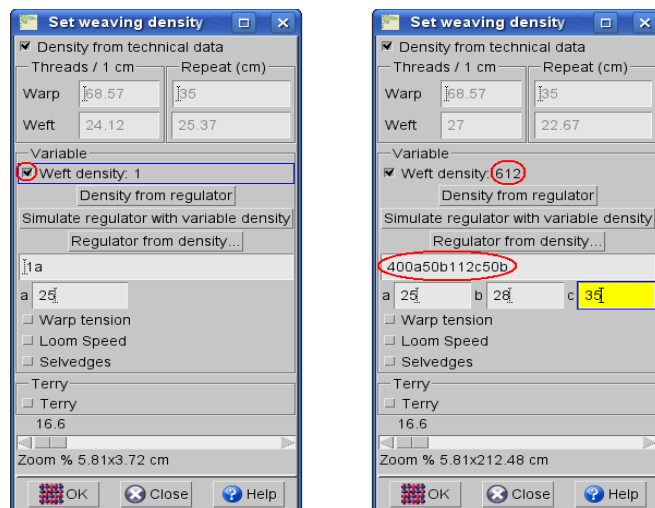

Figure 313: Setting variable weaving density
Then in the text field we type the variable density pattern. In Figure 313, the density pattern means, that 400 picks have density a, which we set to 25 picks per centimeter, then 50 picks are woven at density b, which we set to 28 wefts per centimeter, then 112 wefts are woven at density c, which we set to 34 picks per centimeter, and then again 50 picks are woven at density b. The program also calculates the total number of wefts in the variable weft density repeat (612), and the average weft density (27 per centimeter).